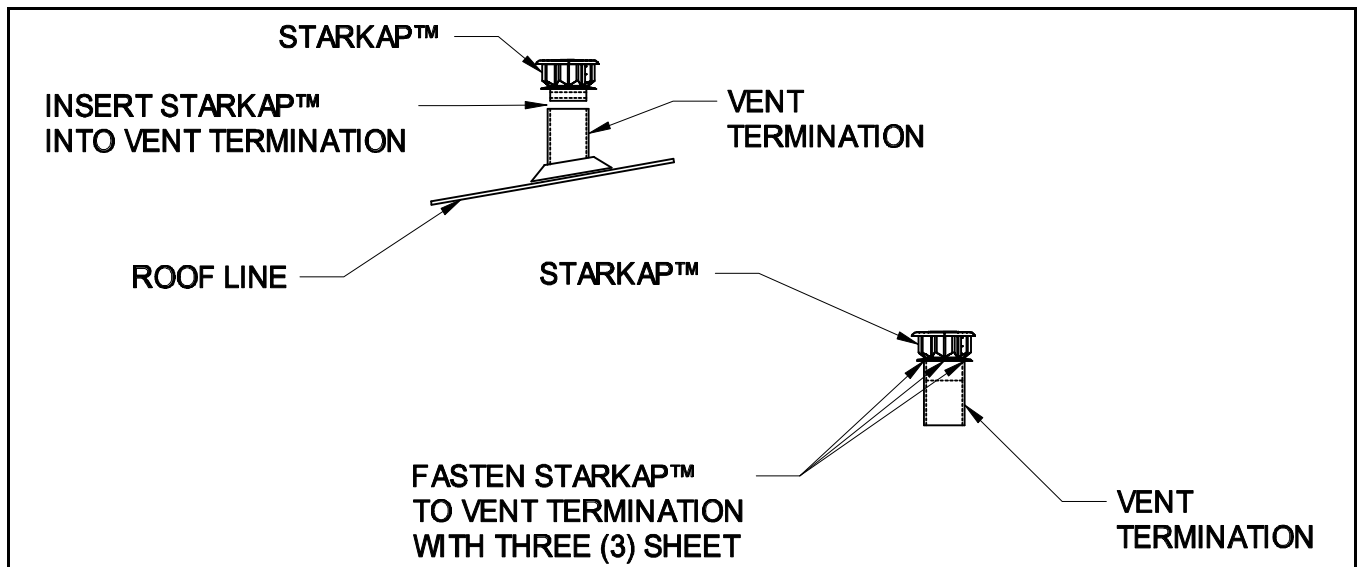

Figure 3
2. Insert the Starkap™ into the inside of the vent termination pipe, making sure the Starkap™ is seated against the storm collar. Fasten the Starkap™ to the vent termination pipe by using three (3) sheet metal screws. Placement of the screws should be approximately 1/2 inch from the end of the vent termination pipe. (See Figure 3) The heads of the screws should be covered with high temperature.